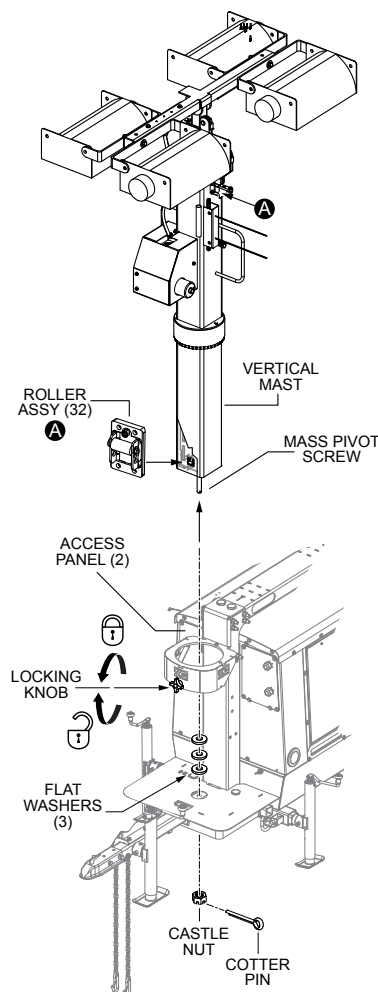

Figure 36. Mast Roller Removal
4. Remove the castle nut and washers as shown in Figure 36.
7. Remove the mast rollers (16) from the outside mast tube sections as shown in Figure 36.
8. Pull each mast section out carefully making sure the mast rollers (Figure 36) do not catch on the open holes.